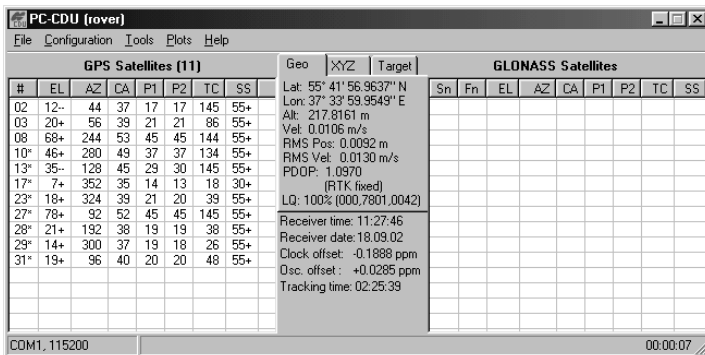

Figure 3-13. PC-CDU Main Screen
9. On the main screen (Figure 3-13), check the LQ field to ensure the receiver obtains differential corrections. Usually, the receiver will start to output the coordinates of the antenna's phase center along with the solution type within 10–30 seconds.